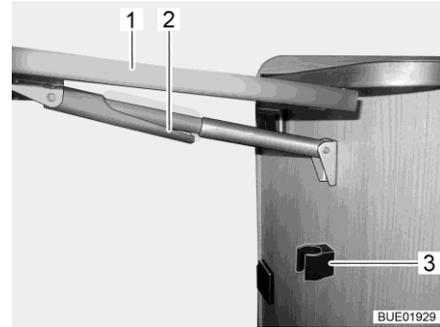

Fig. 51 Folding away the folding worktop
- Hold the folding worktop (Fig. 51,1) at the edges and lift gently. With your other hand, swing down the fixture (Fig. 51,2) on the telescopic holder.
- Fold down the table top until the telescopic holder clicks into position in the holder (Fig. 51,3).